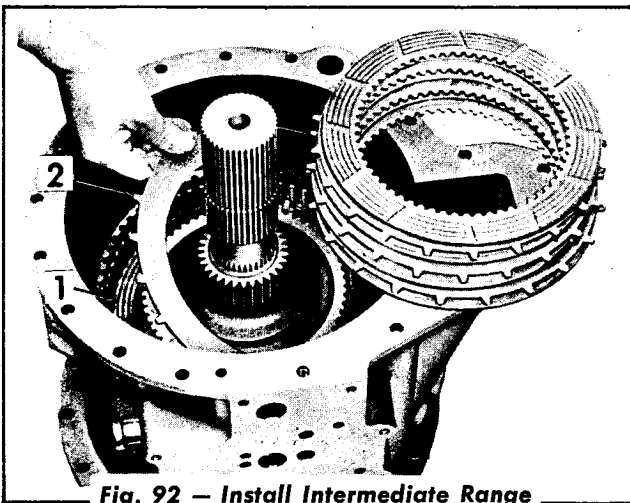

Fig. 92 — Install Intermediate Range Clutch Plates
8. Beginning with an internal splined plate (Fig. 92), alternately install five internal and four external splined intermediate range clutch plates.